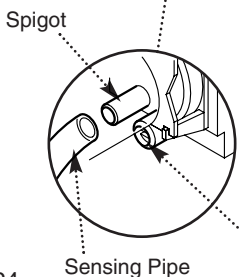

Fig. 40B
- Slacken the pressure test point sealing screw and connect a pressure gauge. Disconnect the sensing pipe from the spigot adjacent to the pressure test point (Fig. 40B).